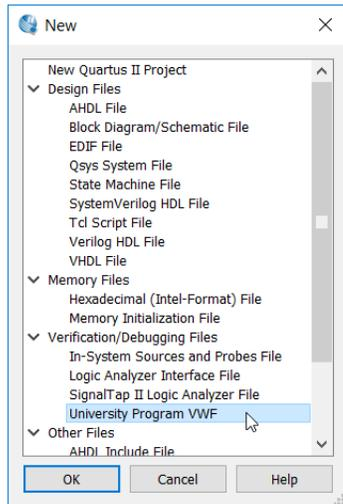

Figure 20. Create new waveform file.
1. Choose **File** ➔ **New** ➔ **University Program VWF** to create a new file (see Figure 20) then click **OK**.